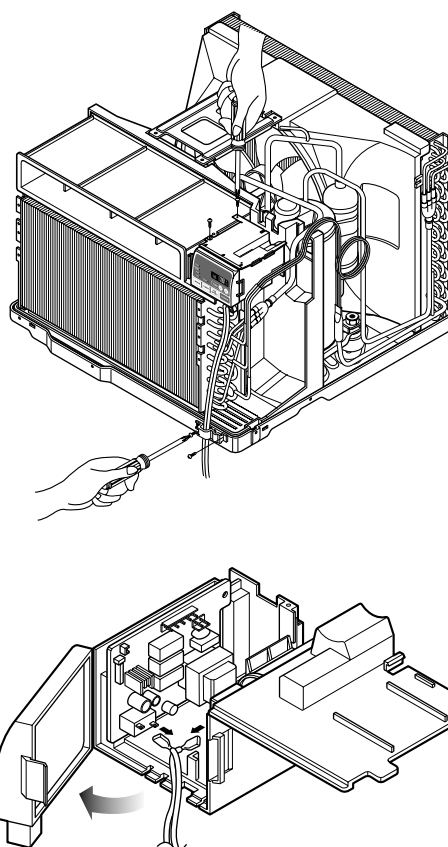

Figure 24
3. Disconnect the front panel from the control box. (See Figure 24)